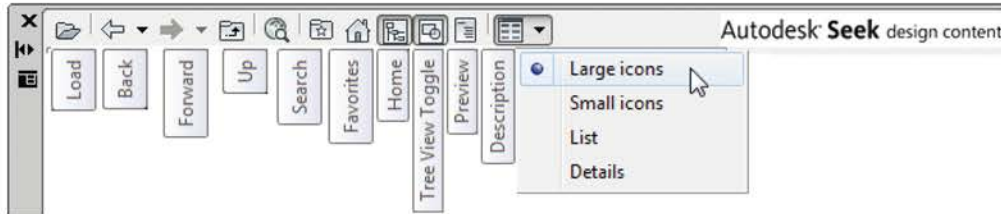

Fig. 13.11 The icons at the top of the DesignCenter palette
2. The icons along the top of the palette (Fig. 13.11) have the following names: